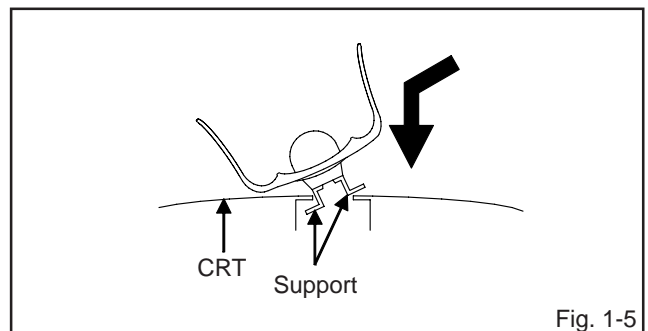

Fig. 1-5
4. Insert one end of the Anode Support into the anode button, then the other as shown in **Fig. 1-5.**